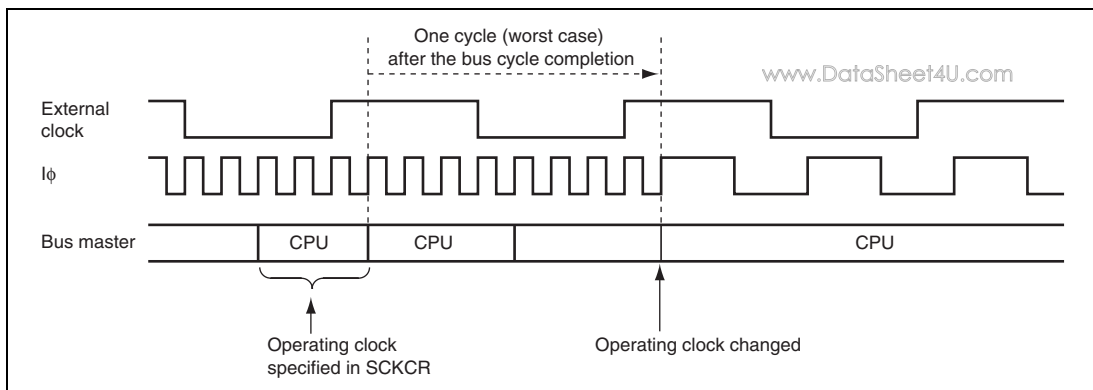

Figure 17.5 Clock Modification Timing
4. Figure 17.5 shows the clock modification timing. After a value is written to SCKCR, this LSI waits for the current bus cycle to complete. After the current bus cycle completes, each clock frequency will be modified within one cycle (worst case) of the external input clock.